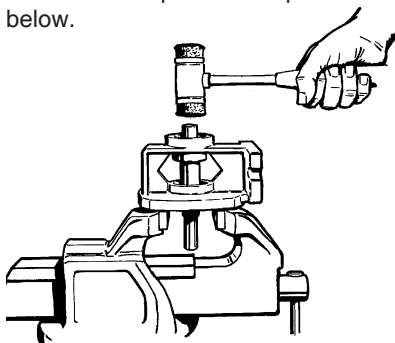

Figure 4-21
4. Place the pedestal, pump side down, on the jaws. Refer to Figure 4-21